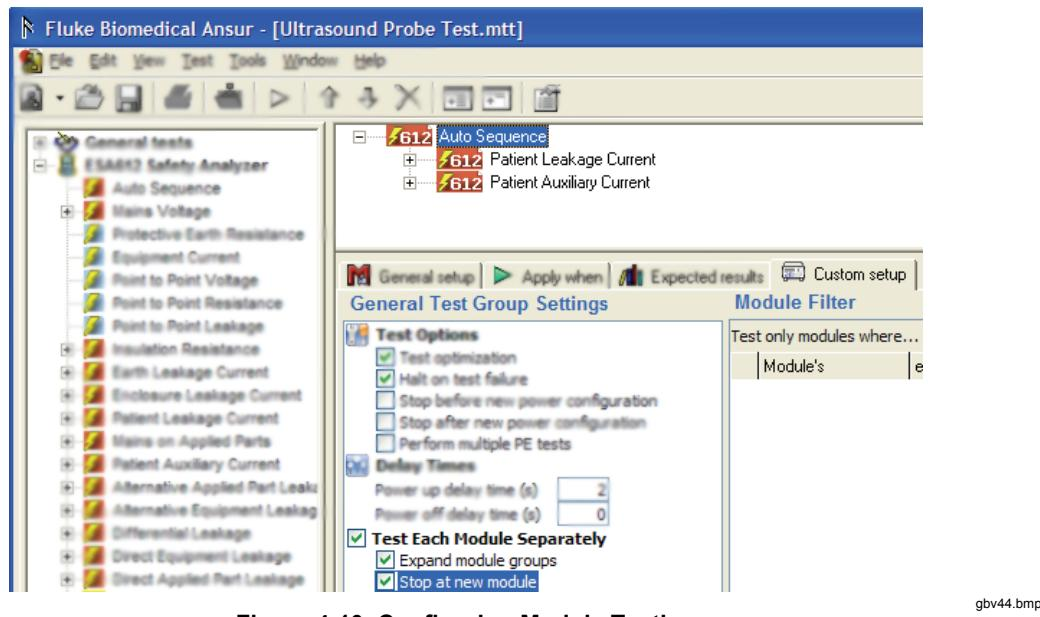

Figure 4-10. Configuring Module Testing
3. Click the Test Each Module Separately, Expand module groups, and Stop at new module checkboxes in the General Test Group Settings area as shown in Figure 4-10.